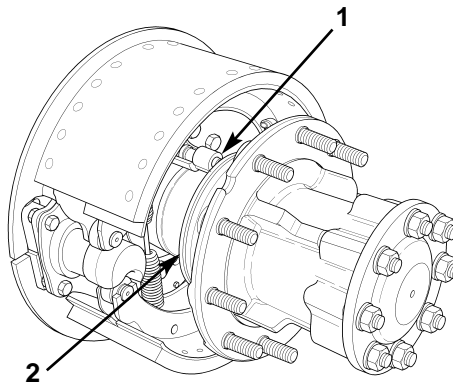

Figure 7. Positioning Wheel Sensor.
17. Push in wheel sensor (figure 7, item 1) until it contacts tone ring (figure 7, item 2).